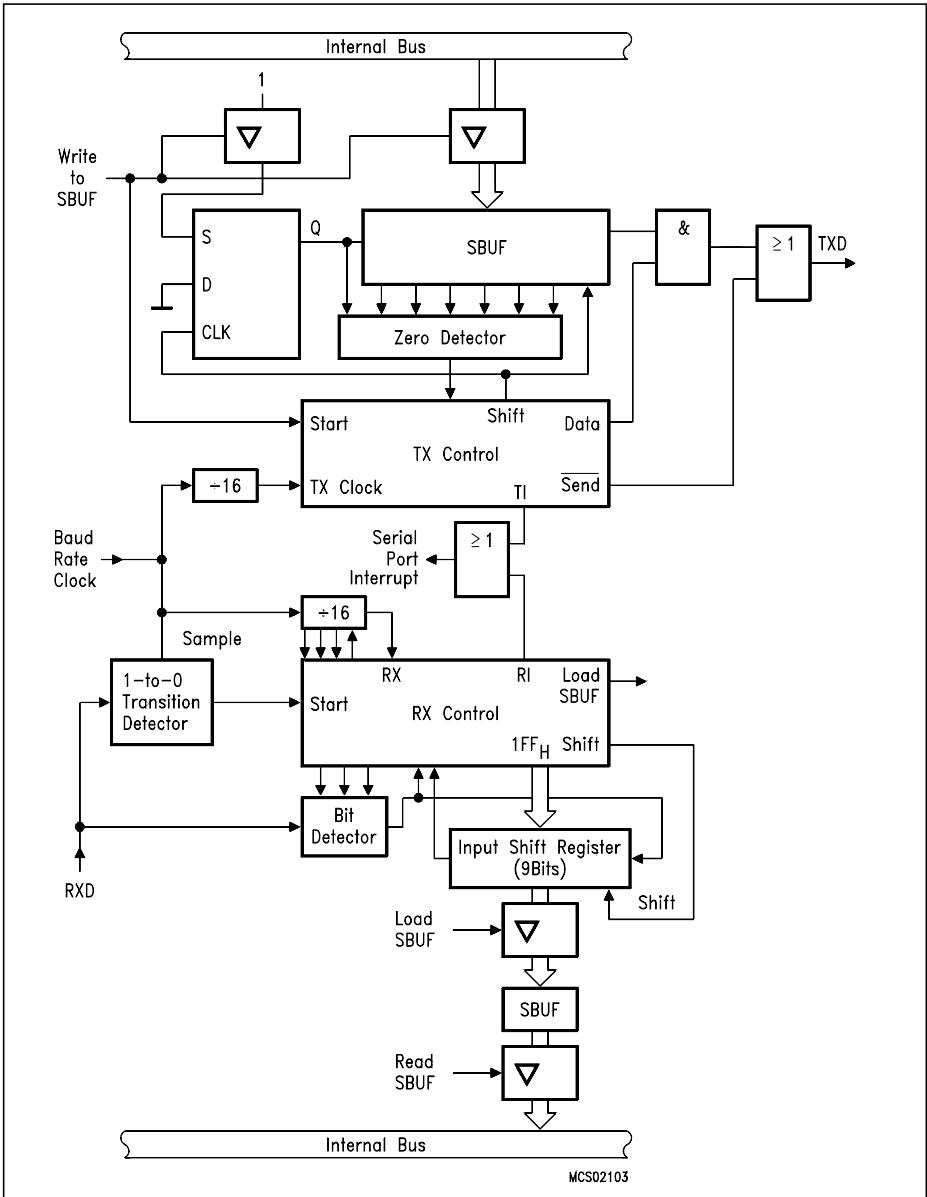
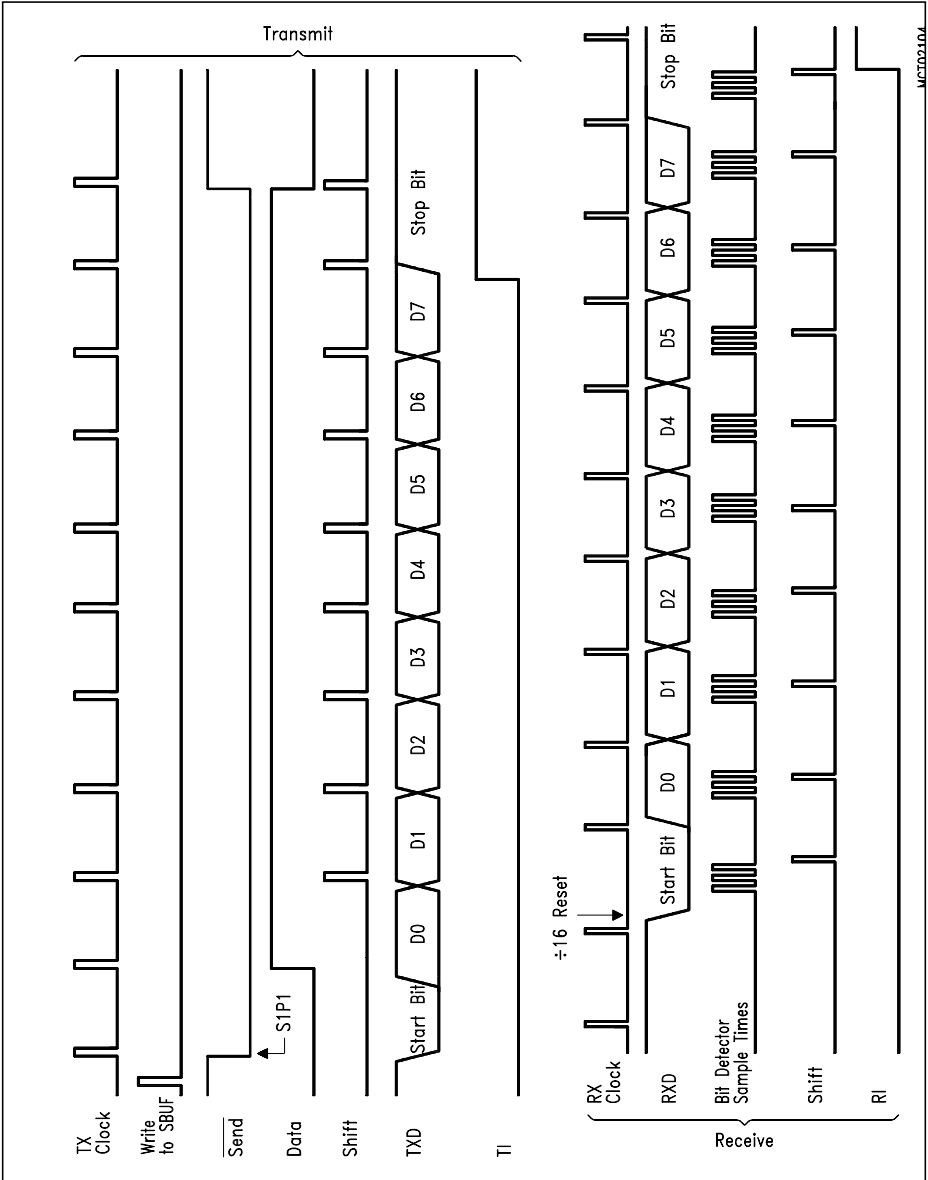

Figure 6-9a
Figure 6-9b
**Figure 6-9a** shows a simplified functional diagram of the serial port in mode 1. The associated timings for transmit receive are illustrated in **figure 6-9b**.